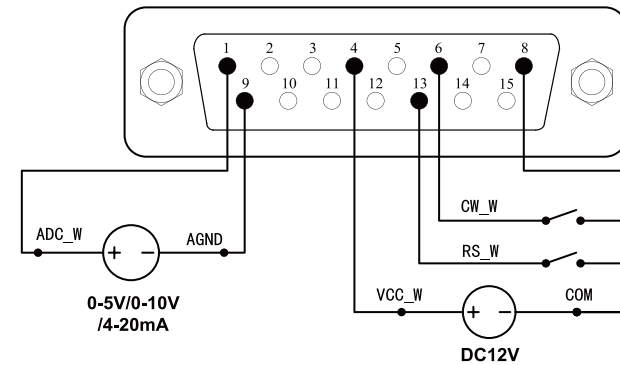
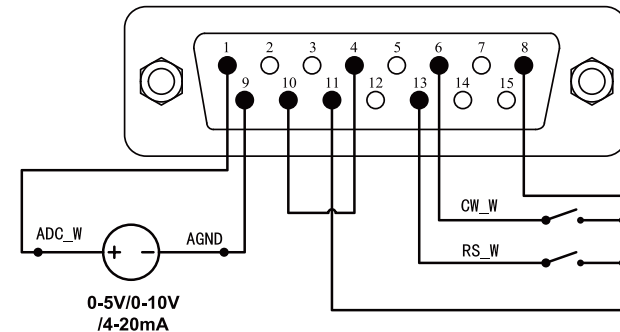

Figure 13 Wiring Diagram for Connecting External DC12V Power Supply in External Control Mode
Figure 14 Wiring Diagram for Connecting Internal DC12V Power Supply in External Control Mode
- With the power supply disconnected, refer to Figure 13 or Figure 14 for wiring. Then connect the DB15 interface to the back interface of the pump.
Note: If you want to use an external 24V DC power supply to control the start, stop and direction of the pump, you need to use a 1.5K resistor in series with RS\_W and CW\_W, as shown in figure 14, otherwise it will cause damage to the internal circuit of the pump.